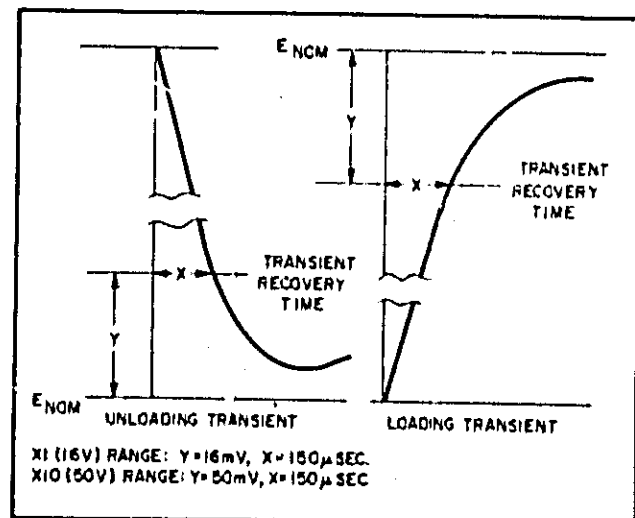

Figure 5-6. Transient Recovery Time, Waveforms
h. Starting from the major graticule division representative of time zero, count to the right 150 µsec and vertically 50mV. Recovery should be within these tolerances as illustrated in Figure 5-6.
j. The transient recovery should be within 16mV at 150µsec as illustrated in Figure 5-6.